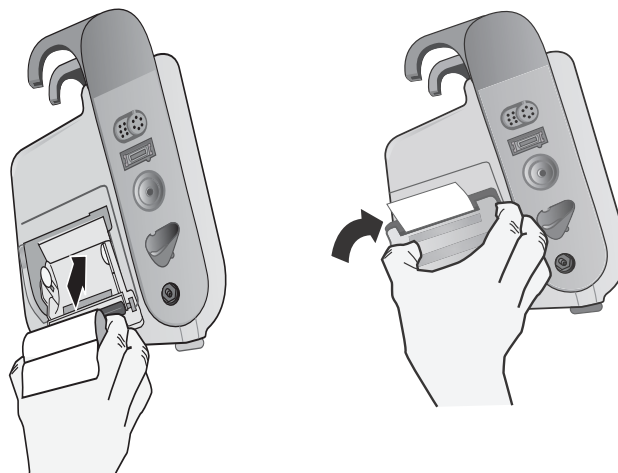

Figure 24-2. Inserting the Paper and Closing Printer Door
4. Place the paper back into the unit and close the cover (see Fig. 24-2).